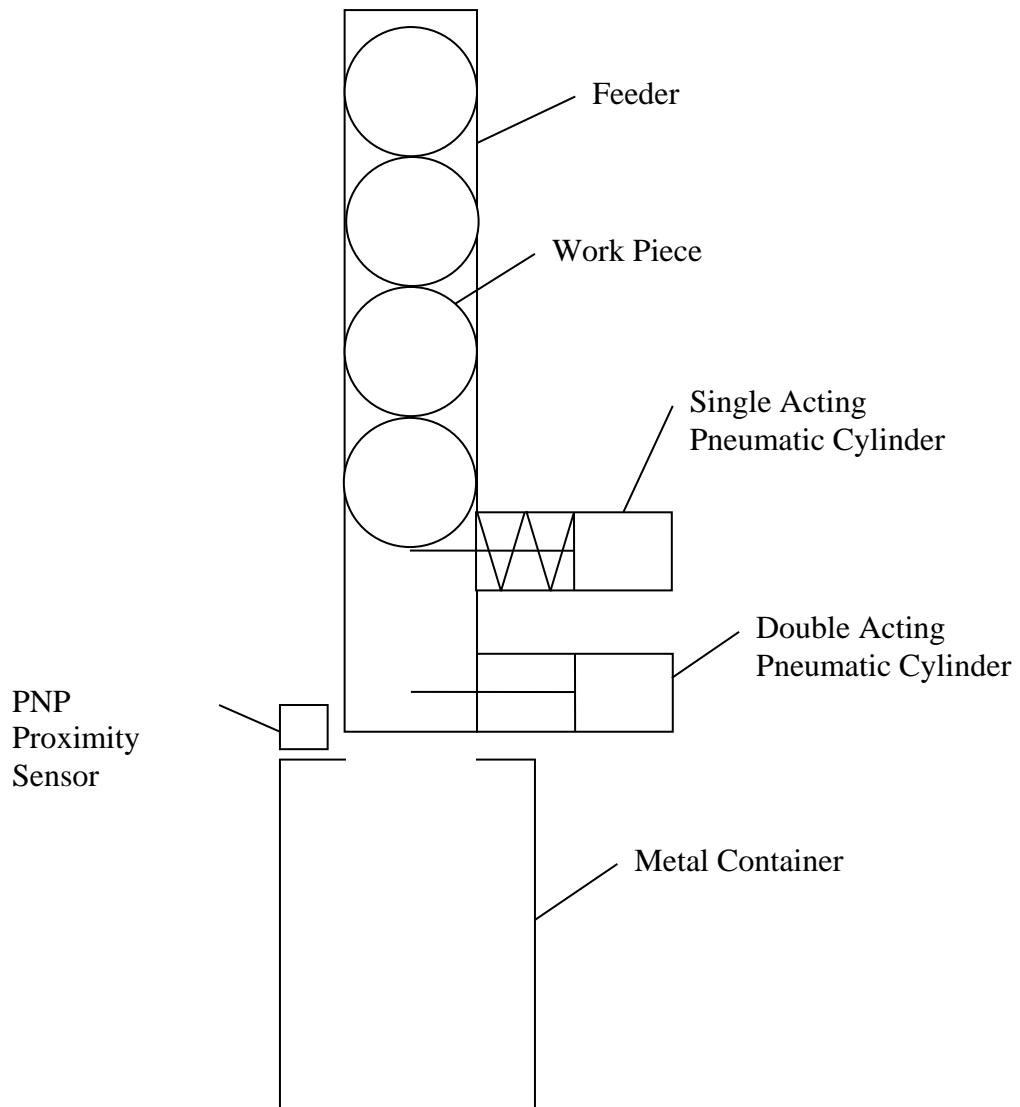

Figure Q3[b]
- [b]** A programmable logic controller (PLC) is used to control a feeder delivering work pieces one by one when a PNP proximity sensor detects a metal container. The feeder uses a single acting pneumatic cylinder and a double acting pneumatic cylinder as shown in Figure Q3[b].